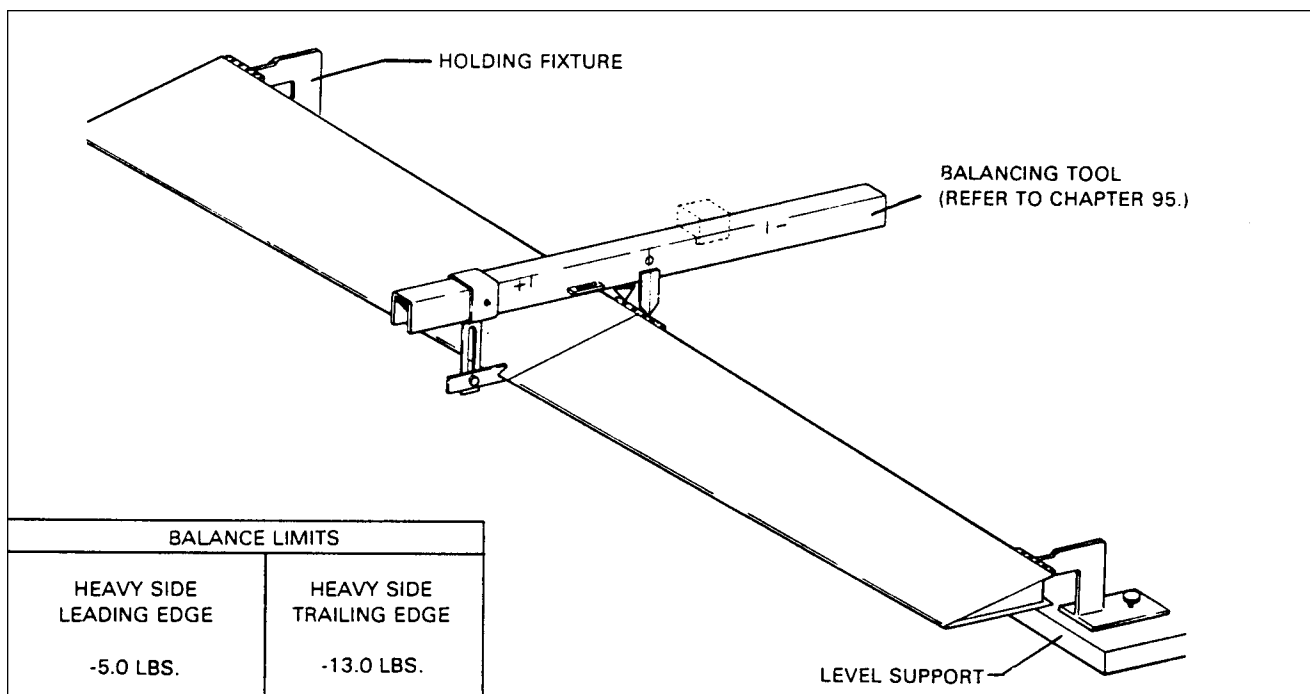

Figure 57-3. Aileron Balance Configuration
BALANCING AILERON (figure 57-3)
4. If static balance is not within limits specified in figure 57-3, proceed as follows:
BALANCING EQUIPMENT AND PROCEDURE (figure 57-3)